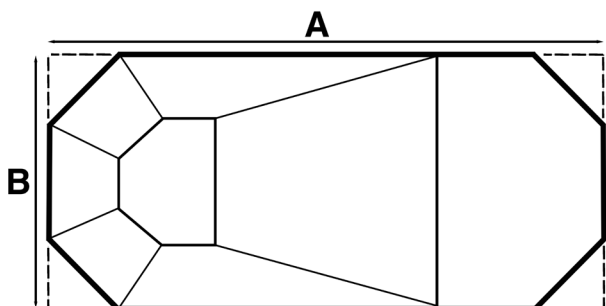
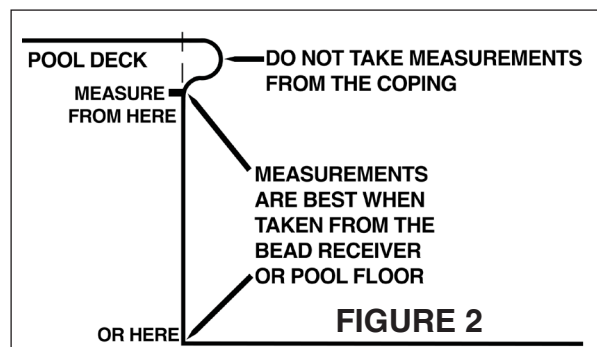

FIGURE 1
FIGURE 2
Referring to the illustration of your Grecian pool (Figure 1), be sure that the width (A) and the length (B) measurements are made at the bead receiver (where the liner snaps into the track), not at the edge of the coping (the edge of the pool deck). See Figure 2.